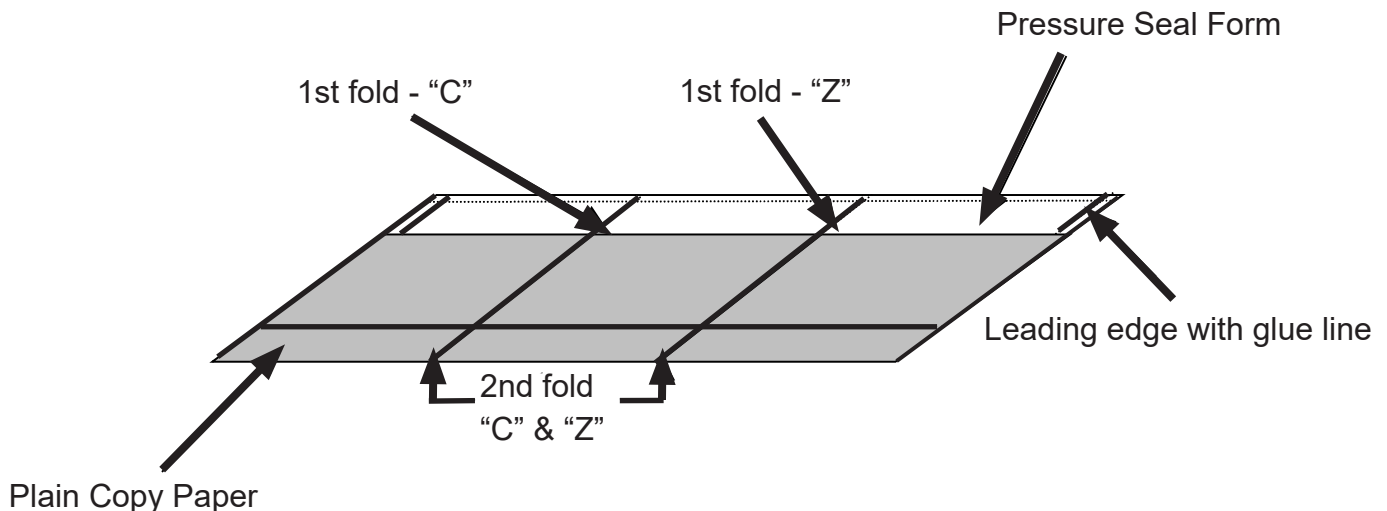

Figure 10
5. Check to see if folds on the plain paper line up with the fold perforations of the pressure seal form (see Figure 10 below). If the folds on the plain paper & fold perforations on the pressure seal forms do not line up, adjust the fold plates (see fold plate adjustment on pg. 4).